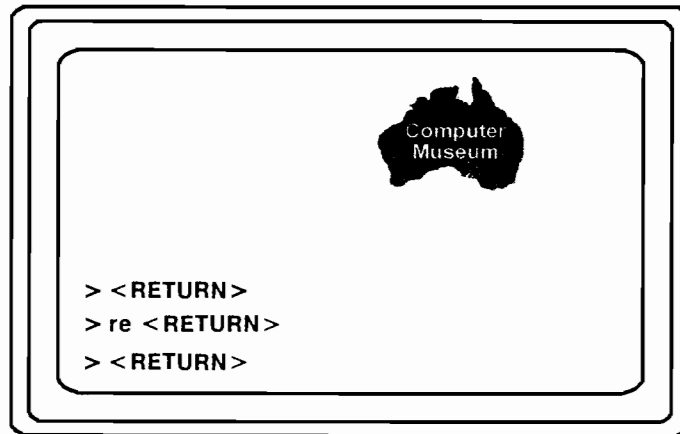

Figure 8-7. Responding to the MD Prompt
9. At the MD “>” prompt, type the lines shown in Figure 8-7.